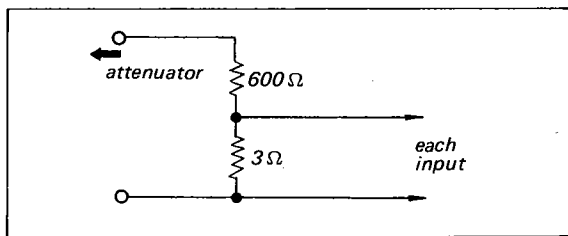

Fig. 3-1. 46 dB pad
**Note:** 1. When measuring the sensitivity of the PHONO-1 LOW LEVEL input, insert a 46 dB pad (shown in Fig. 3-1.) between the attenuator and input terminal. The input sensitivity may be regarded as the reading on the attenuator plus the pad-loss.
\* The PHONO-1 IMPEDANCE SELECTOR switch should be set to 30 Ω and an additional attenuator pad (See Fig. 3-1.) used between the main attenuator and input jack.